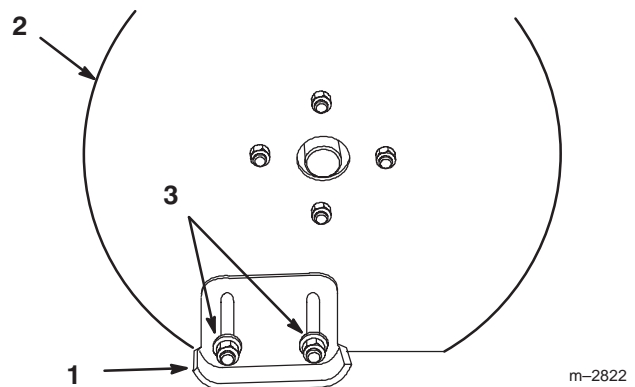

Figure 20
3. Loosen nuts securing skids to the housing until the skids slide up and down easily (Fig. 20).
4. Raise or lower skids equally on both sides, to obtain level scraping action, and tighten nuts (Fig. 20).